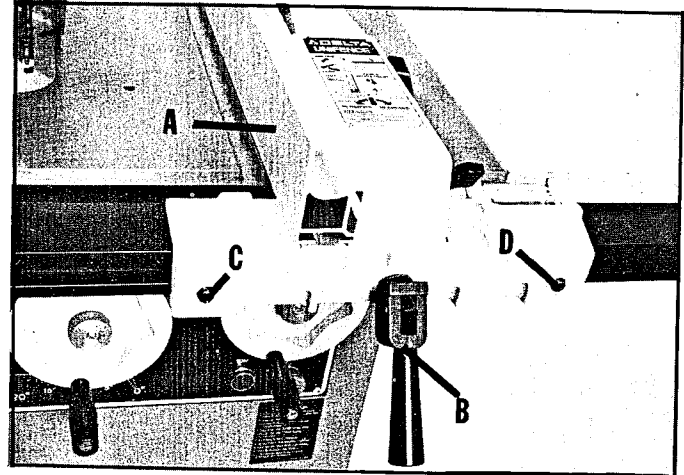

Fig. 49
The fence (A) Fig. 49, should be adjusted so it is parallel to the miter gage slots. To check and adjust, move the fence until the bottom front edge of the fence is in line with the edge of the miter gage slot, and push down on fence clamping lever (B). Check to see if the fence is parallel to the miter gage slot the complete length of the table. If the rear of the fence must be moved to the left, slightly tighten screw (C). If the rear of the fence must be moved to the right, slightly tighten screw (D). **IMPORTANT: DO NOT OVERTIGHTEN SCREWS (C) AND (D) FIG. 49. VERY LITTLE MOVEMENT OF THESE SCREWS IS NECESSARY WHEN ADJUSTING THE FENCE PARALLEL WITH THE MITER GAGE SLOT.**